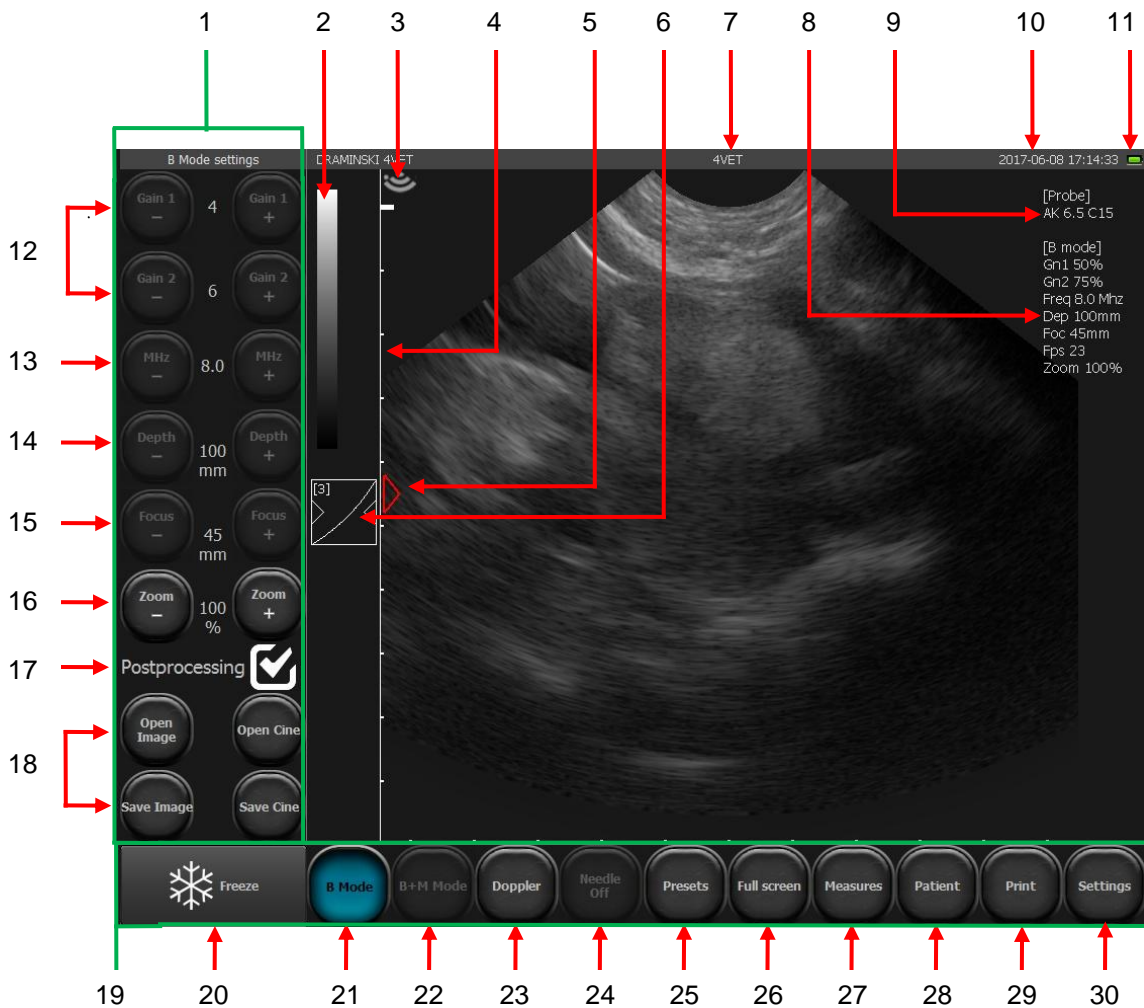

Fig. 11 Elements of the basic panel
3. Switch on the device pressing the power button ① which is on the right side of the casing
5. Check if the connected probe is adequate with the symbol appearing on the screen (Fig. 11, no 9) and check if there is a response when you touch the head of the probe.
2. Switch on the device pressing the power button ① which is on the right side of the casing
4. Check if the connected probe is adequate with the symbol appearing on the screen (Fig. 11, no 9) and check if there is a response when you touch the head of the probe.